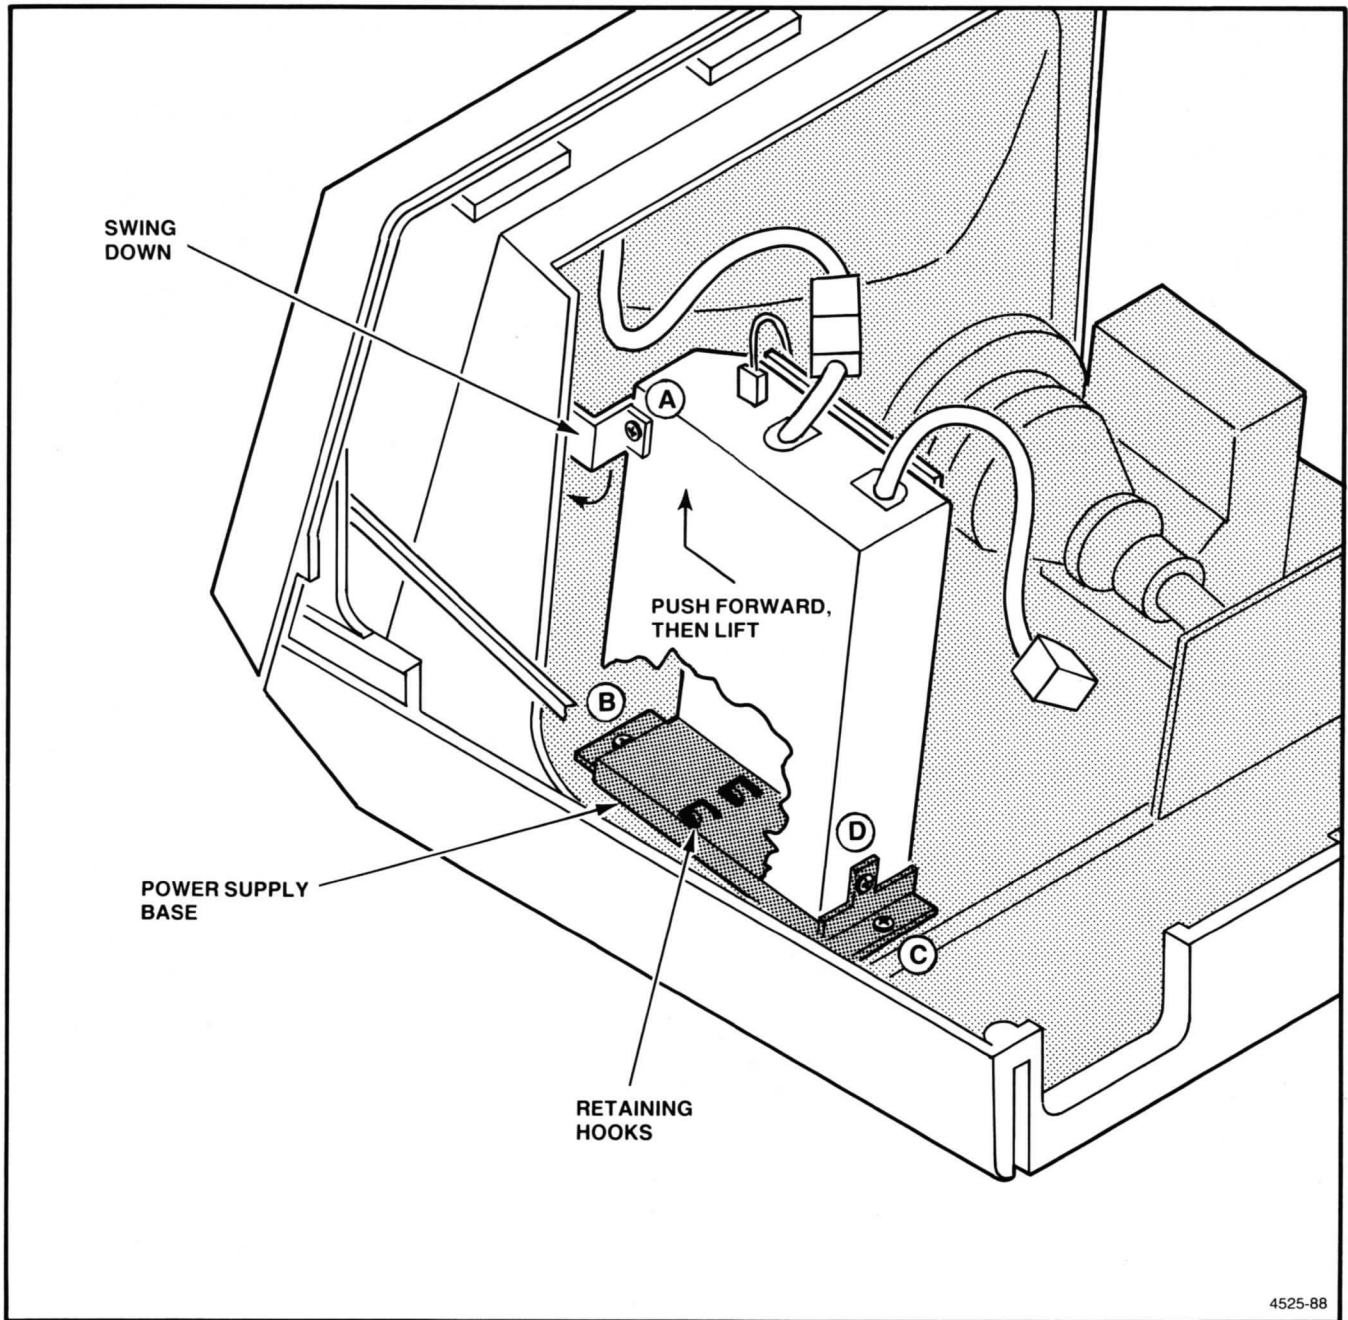

Figure 6-11. Display Power Supply Mounting Screws.
5. Unscrew the forward-facing screw on the bottom-rear corner of the display power supply; see screw (D) in Figure 6-11.
6. Unscrew the screw that fastens a bracket to the upper-front outside panel of the display power supply enclosure. See (A) in Figure 6-11.
The display power supply can be removed without removing the main Power Supply Module. To do this, remove three screws labeled (A), (B), and (C) in Figure 6-11. Then unplug the cables and lift out the assembly.